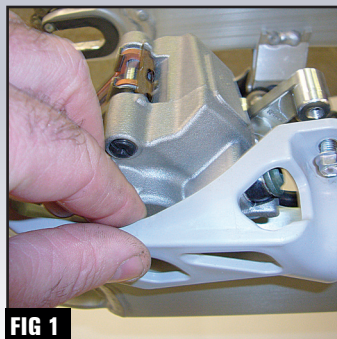

FIG 1
- 2** Remove the plastic caliper guard (except on 1711-0045) by unthreading the two bolts with an 8mm socket. (Fig 1)